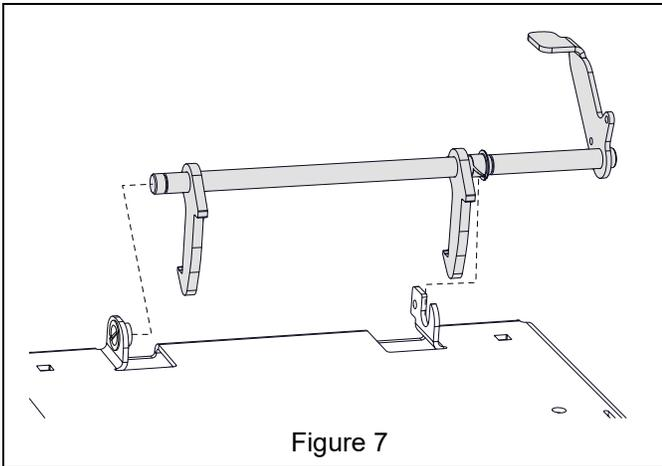

Figure 7
4. Install seat latch into seat plate assembly. Ensure that bushing flange on latch is positioned on the outside of the seat bracket. See Figure 7.